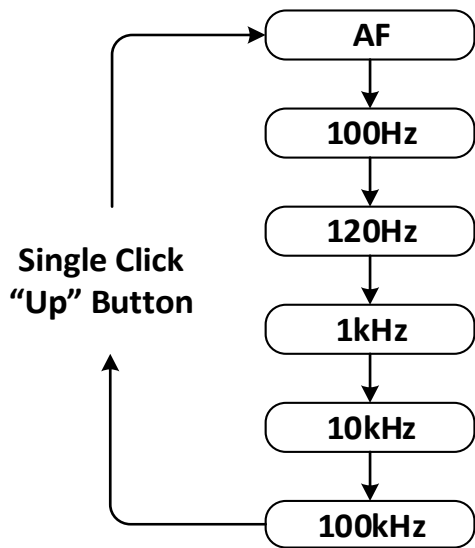

Figure 3-2: Switch Test Frequency by Single Clicking the "Up" Button
- Single click the "Up" button to switch test frequency as Figure 3-2 shows.